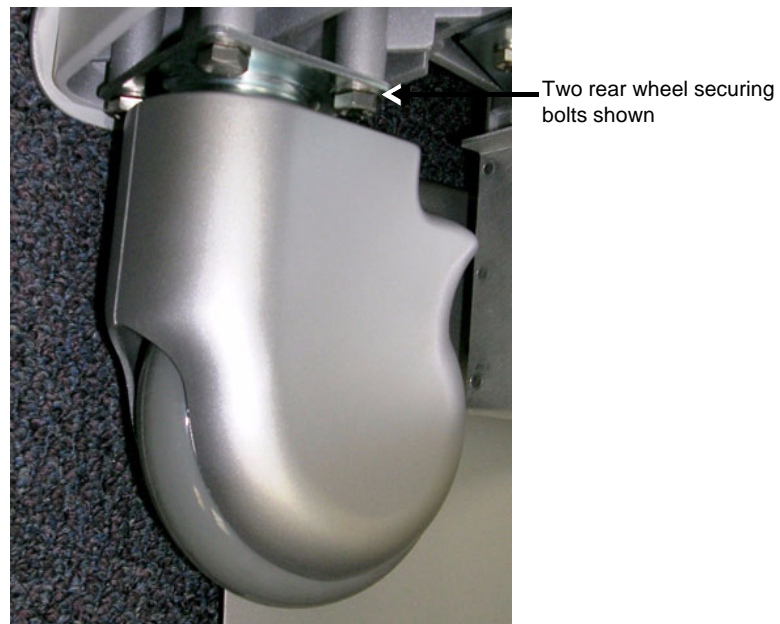

Figure 8-107 Rear Wheel Bolted to SafeLock Cart Chassis
- 5) Loosen and remove the four bolts that secure the rear wheel to the SafeLock Cart chassis - see Figure 8-107.
- 2) Return and fasten the four bolts (previously removed - see Figure 8-107) and make sure that wheel is secured firmly to the chassis.